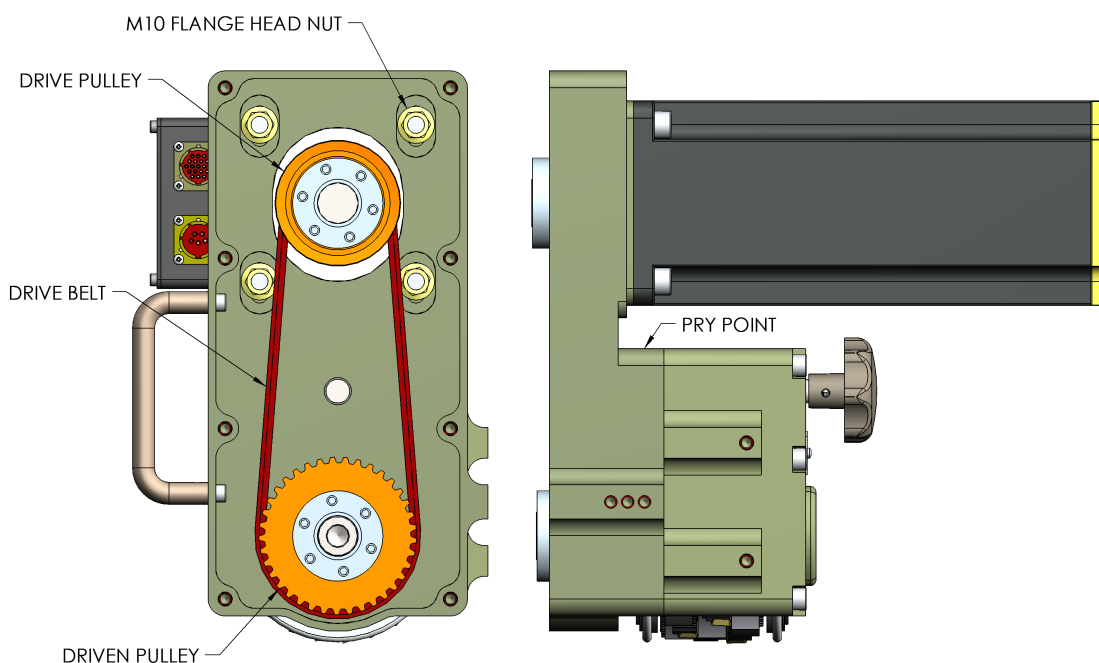

Figure 5. Replacing the Drive Belt
2. Loosen the (4) four M10x1.5 Flange Head Nuts, shown in Figure 5, approximately $\frac{1}{4}$ turn. This will allow the Servo Motor to move, but constrain the Drive Pulley to remain essentially parallel to the Driven Pulley during tensioning.
The main problem with tensioning the Drive Belt is accurately applying the required separation force with tools readily available on the factory floor. Placing a Pry Tool on top of the Cutter Housing and underneath the mid-point of the Servo Motor flange. The pry bar location is shown in Figure 5 as the pry point. This allows the Drive Belt to be easily tensioned. The lever/fulcrum creates a force multiplier.
With the Weld Shaver in the vertical position, as shown in Figure 5, the proper Tension Force at 15 inches (381 mm) will be 20 lbs. (87 N) for a new belt, and 17 lbs. (74 N) for a used belt. Once the proper Tension Force has been applied, tighten the (4) four M10 Flange Head Bolts to the torque specified in Section 7.0. Replace the Belt Cover and re-install the (8) eight M6 Socket Head Cap Screws. Tighten the M6 Socket Head Cap Screws to the torque specified in Section 7.0.